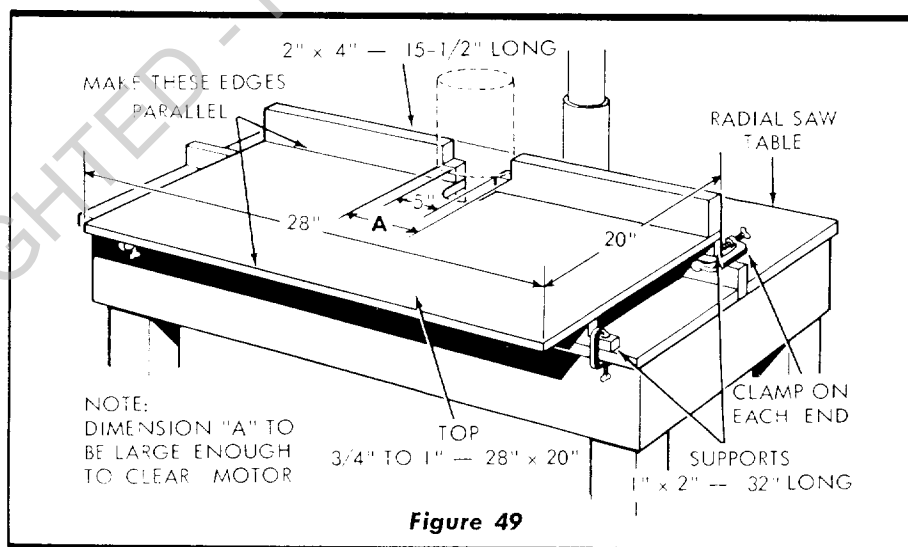

Figure 49
8. An auxiliary table top for molding or shaping can be constructed similar to figure 49. Note the shape of the back guide fence against which your work piece is moved. A cut-out 5" wide should be made at the center of this guide fence to give adequate clearance for the molding head and cutters. Also a wider clearance marked "A" should be made to allow for the radial saw motor. Be sure the front edge of the auxiliary table is parallel with the surface of the guide fence. With the auxiliary table top thus completed it is ready for use by merely clamping it into position with "C" clamps.